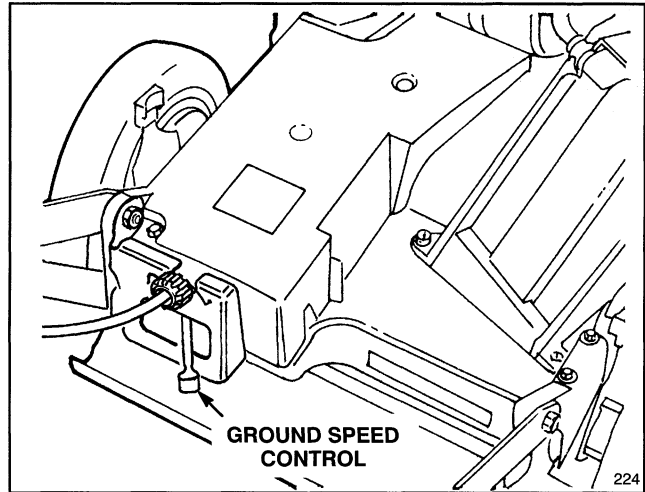
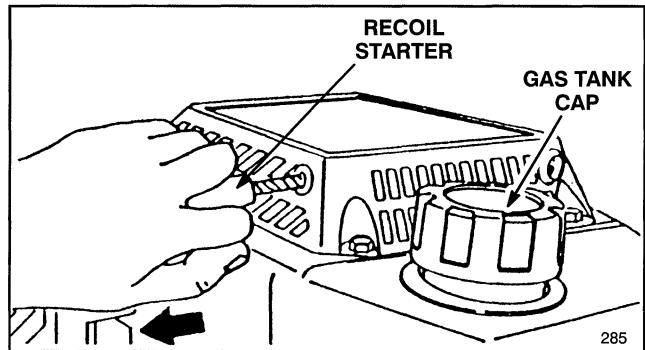
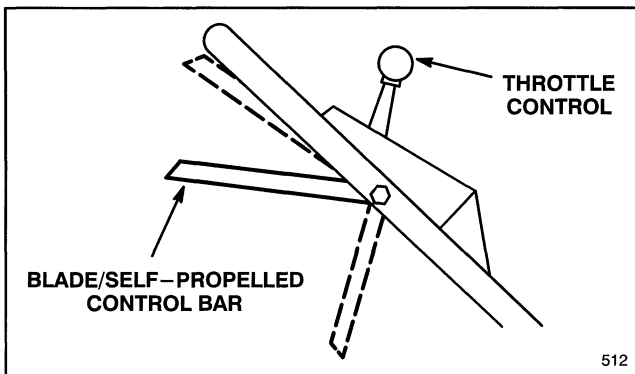

Figure 9
Figure 10
Figure 8
1. Clean around fuel tank cap and remove cap from tank (Fig. 10). Using unleaded gasoline, add fuel to 1/4" to 1/2" (6 to 13 mm) from top of tank, not into the filler neck. Do not fill the tank full.
1. **CONTROLS**—Throttle control and blade/self-propelled control bar are on upper handle (Fig. 8). Ground speed control is located at rear of belt cover (Fig. 9). Recoil starter is on top of engine (Fig. 10).
2. Remove cap from fuel tank (Fig. 10) and use pump–type syphon to drain fuel into clean gas can.